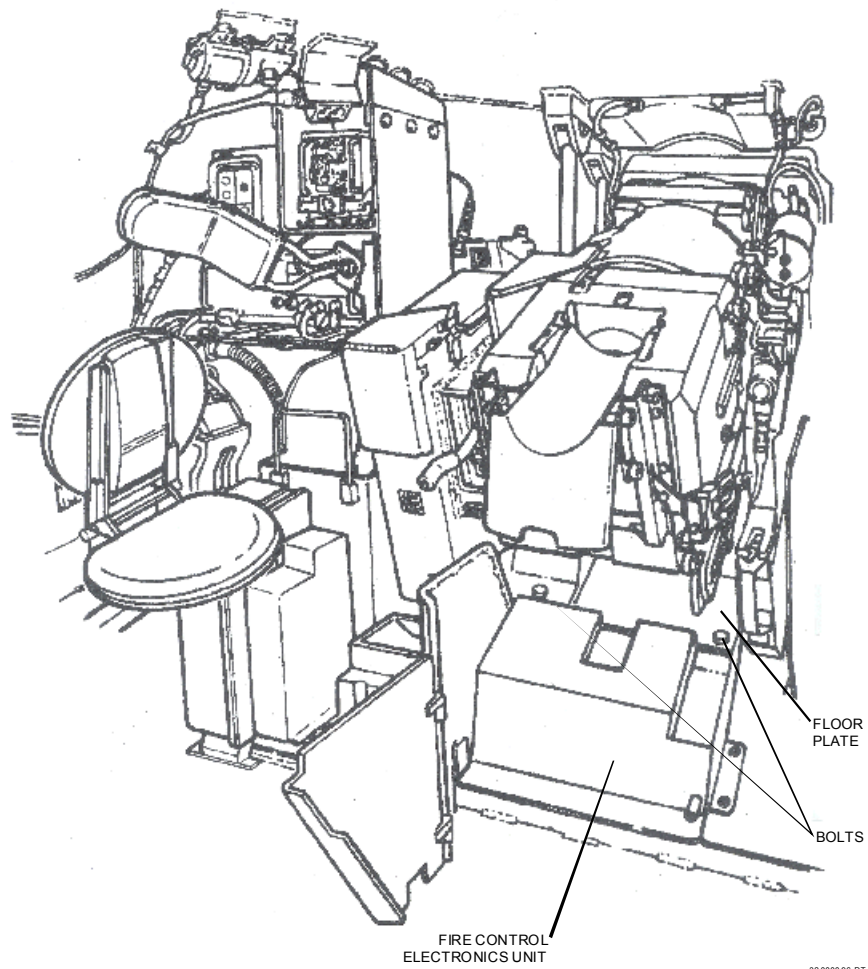
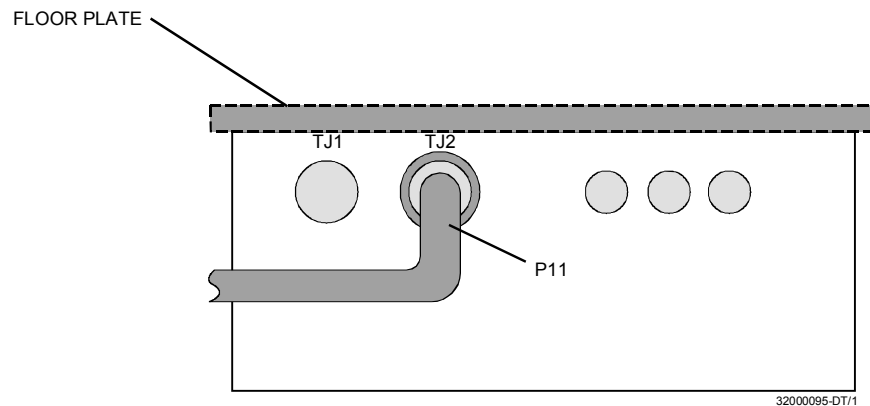
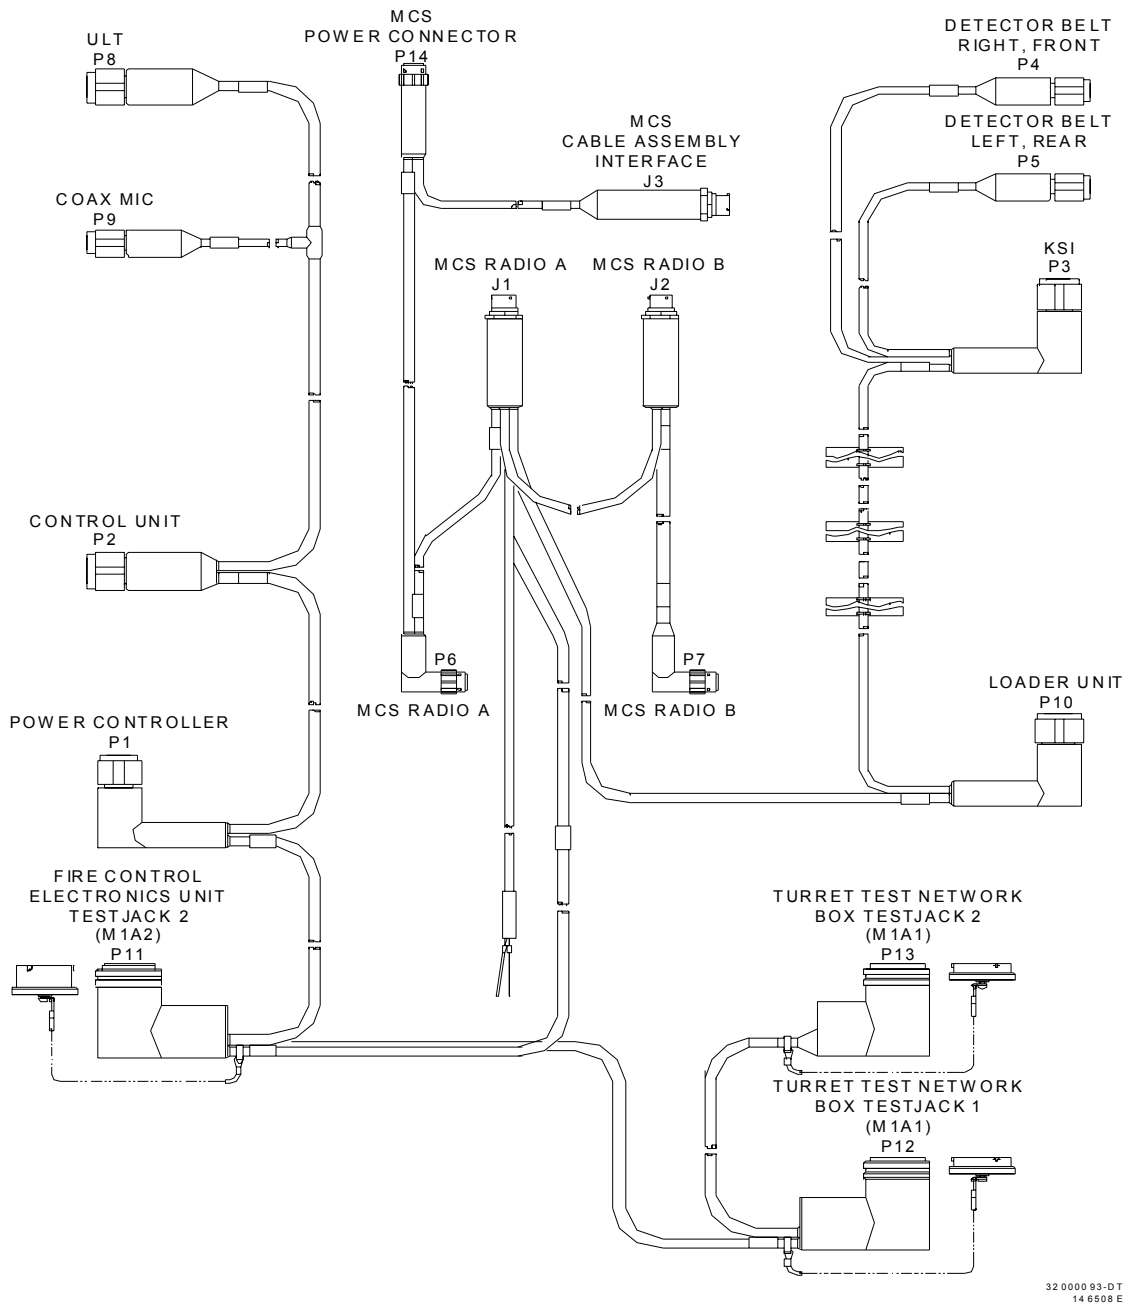

Figure 2-44. M1A2 Fire Control Electronics Unit Access.
Figure 2-45. M1A2 Fire Control Electronics Unit Connection
Figure 2-46. M1A1/M1A2 Combined VIS System Cable.
M1A2 ONLY - Route segment (P11) to the Fire Control Electronics Unit. Remove the 2 bolts holding the floor plate. (See Figure 2-44.) Remove the floor plate and connect (P11) to TEST JACK 2 of the Fire Control Electronics Unit. (See Figure 2-45.) Route cables along the left side of FCU and reinstall floor plate.
2.3.2.14.3 M1A1/A2 Combined VIS System Cable. (See Figure 2-46.)
M1A2 ONLY - Route segment (P11) to the Fire Control Electronics Unit. Remove the 2 bolts holding the floor plate. (See Figure 2-44.) Remove the floor plate and connect (P11) to TEST JACK 2 of the Fire Control Electronics Unit. (See Figure 2-46.) Route cables along the left side of FCU and reinstall floor plate.